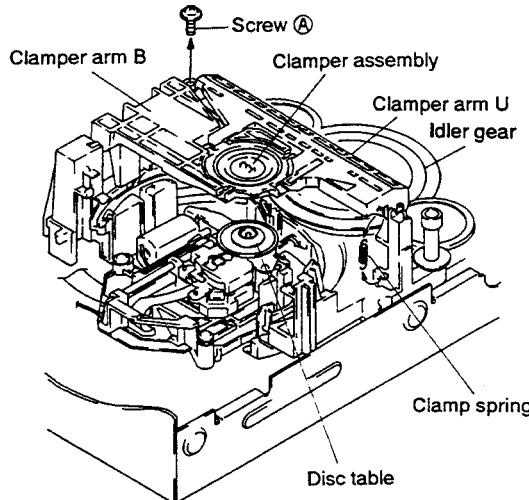

Fig. 1-4
- (1) As shown in Fig. 1-4, rotate the idler gear so that the clamper assembly not to be clamped on the disc table. Next, take out the clamp sprig and the screw Ⓐ, and remove the clamper arm U and B.